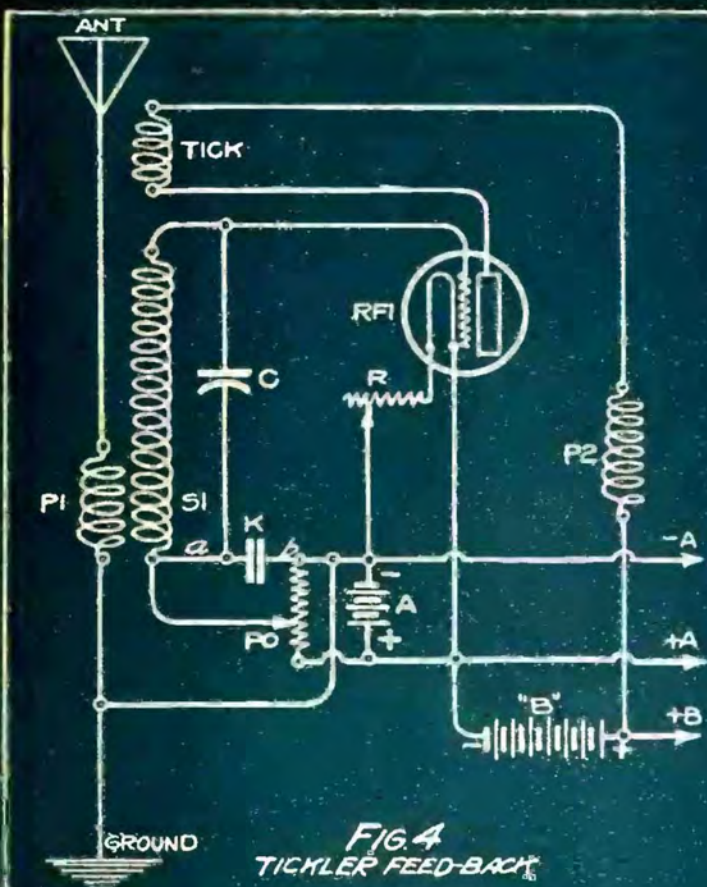

FIG. 4
A straight tickler (inductive) feed-back can be applied to the radio stages as in Fig. 4, where (P1) is the primary of the antenna coupler, (S1) is the secondary coil of the coupler and (TICK) is the tickler coil feeding plate current back to the secondary. Plate current also passes through the transformer primary (P2) through which the radio stage is inductively coupled to the succeeding detector or to a second stage of radio frequency. When the tickler coil (TICK) is adjustable in regard to the other coils a very close control of the regeneration can be had, and when it is excessive through any means, the direction of the coil can be suppressed so that opposing or "negative feed-back" is had which suppresses the free oscillations in the circuit. With an adjustable tickler, the potentiometer (PO) is omitted, and direct connection is made between the (-A) line at (a) and the grid return line at (b).